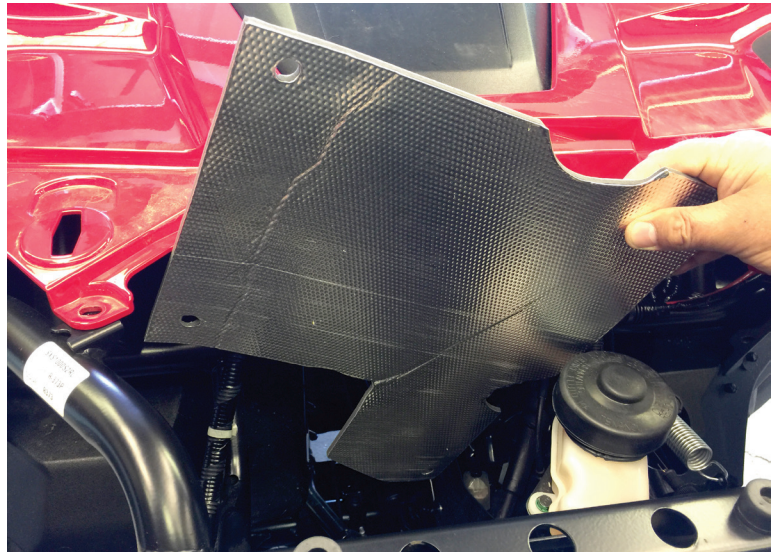

Figure 4
5. Install hard shield with holes on top and ear to the passenger side. When installing this shield, it is normal to have to slightly bend the shield to fit. The ear on the passenger side will fit between the two plastic factory shields where you removed the push pin in step 4. See fig 4 & 5